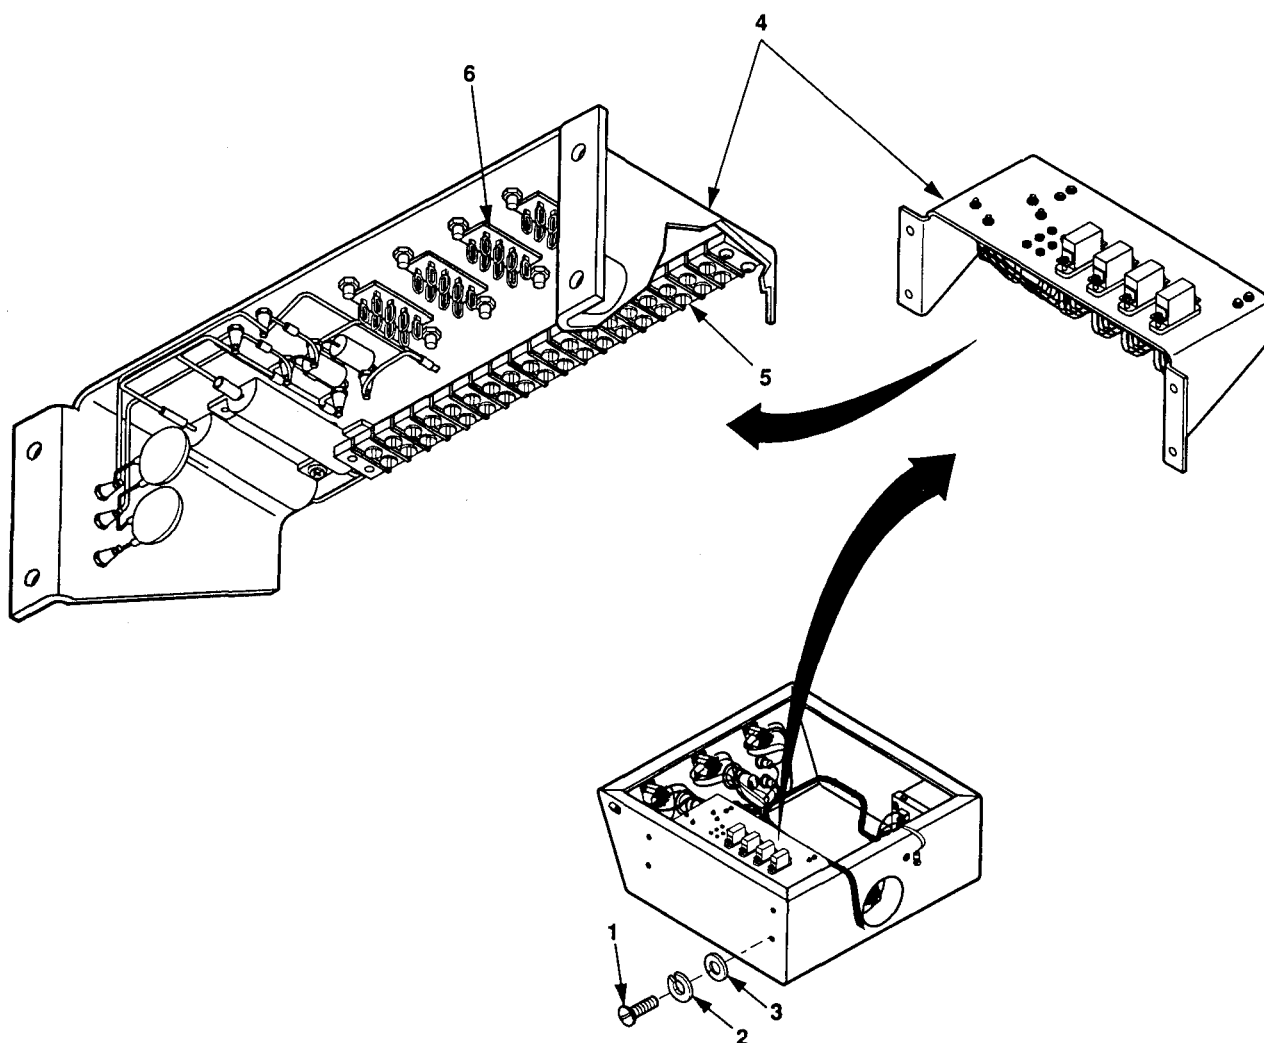

Figure 5-13. Relay Board Harness Assembly W11 Removal.
1. Remove four screws (1, figure 5-13), lock washers (2), and flat washers (3), and invert relay board assembly (4).